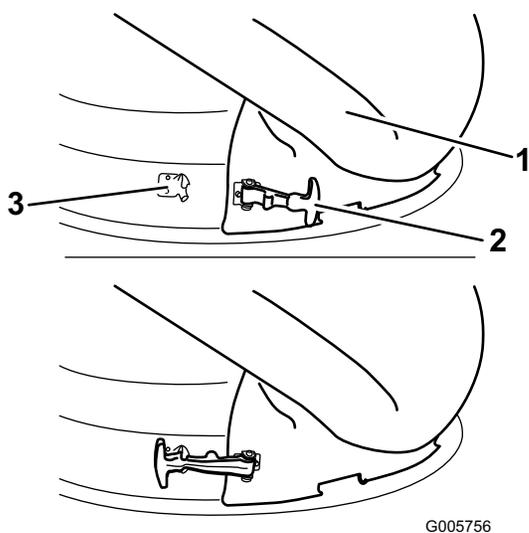

Figure 16
- Secure the chute to the 50 inch deck. Hook the flexible latch on the chute to the retaining clasp welded on the mower deck to the rear of the opening (Figure 16).